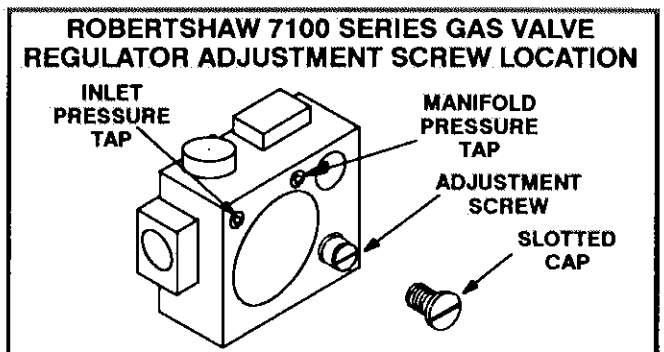

FIGURE 21
- 1– Check gas line pressure with unit firing at maximum rate. A minimum of 4.5 in. w.c. for natural gas or 10.5 in. w.c. for LP/propane gas should be maintained. See figure 21 for gas pressure adjustment screw location.